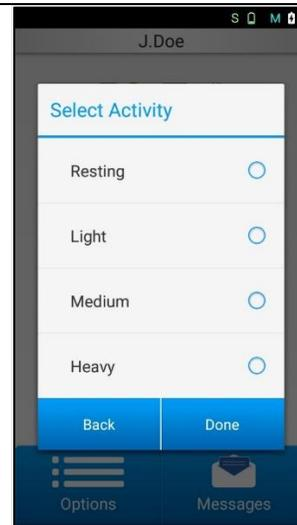

Figure 14-2 Select Activity
7. If you select at least one symptom event, the next screen that displays is the *Select Activity* screen (See Figure 14-2). This allows an indication of the level of activity performed when the event occurred. Press ‘Done’ to finish the process, or ‘Back’ to return to the *Select an Event* screen. Determination of what constitutes light, medium, and heavy activity depends on your personal analysis.